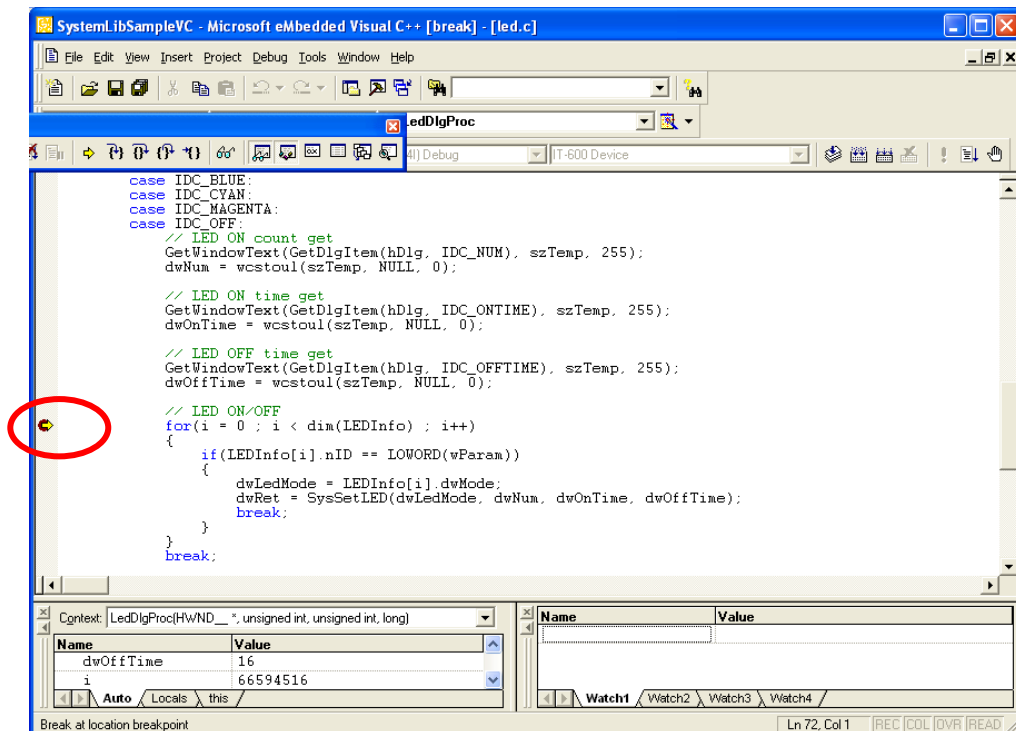

Figure 7.23
3. Similar to ordinary debugging operation with actual IT-600 device used, the **Device Emulator** allows break point setting (drawn by red circle in Figure 7.23) in the source code and step-by-step debug method.